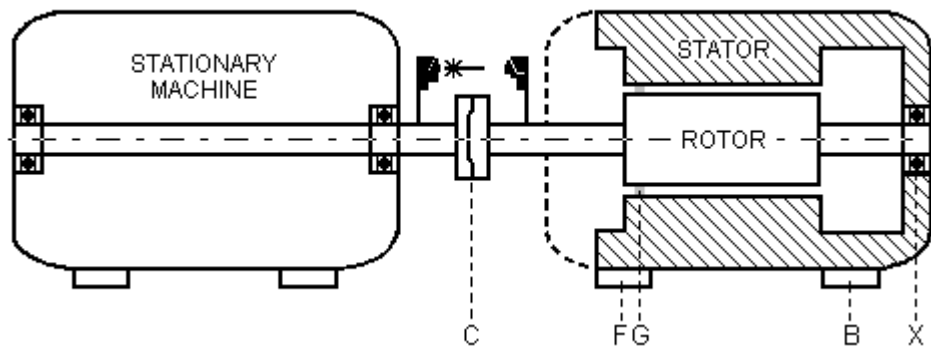
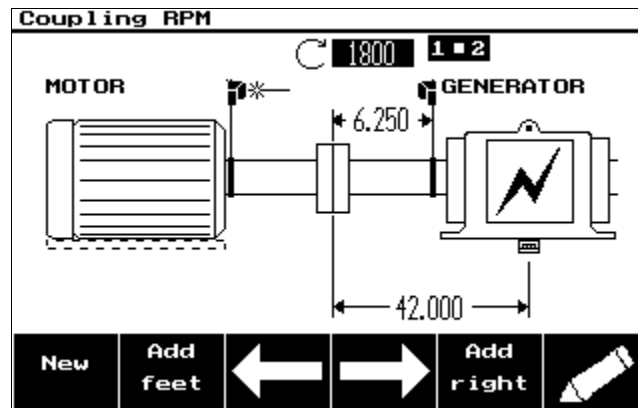

Figure 1
Figure 2
- In the ROTALIGN® PRO's Dimensions screen, configure the right machine as a single-bearing machine (single-footed machine) with single plane coupling (see Figure 2). Dimensions are entered as follows: Coupling Center to Receiver (as usual), and Coupling Center to Foot as the distance from coupling center to the location of the bearing (C to X in Figure 1). Do *not* enter the distance to any of the actual feet of the generator.